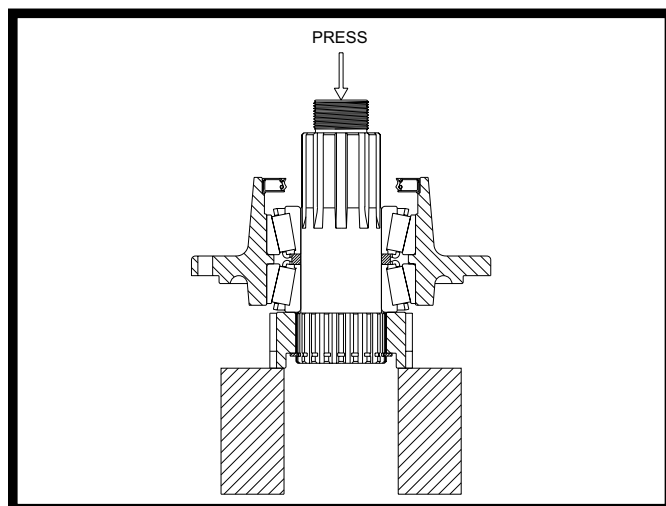

Fig 19
3. Place the shaft assembly in a press such that the face of the clutch gear is supported and the press arbor bears against the threaded end of the shaft. See Figure 19. Be sure that the outer diameter of the snap ring will clear the support. Remove the carrier assembly, the inner bearing cone assembly, the bearing spacer ring, and the clutch gear.